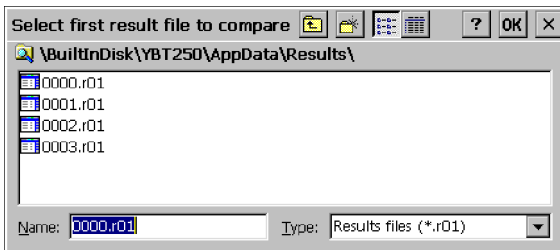

Figure 3-7: Selecting the first result file
1. Select **File > Compare Saved....** The Open dialog appears. See Figure 3-7. For the first result selected, the dialog box is labeled **Select first result file to compare**.